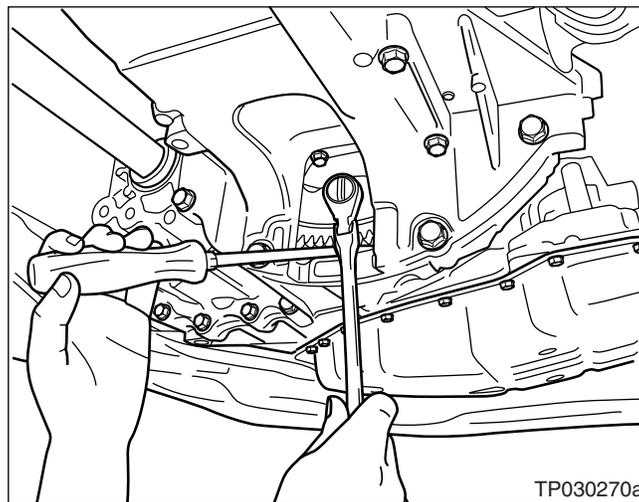

Figure H12
- Use a screwdriver to move the Torque Converter up or down to align the Torque Converter bolt holes with the Flex Plate bolt holes. See Figure H12.